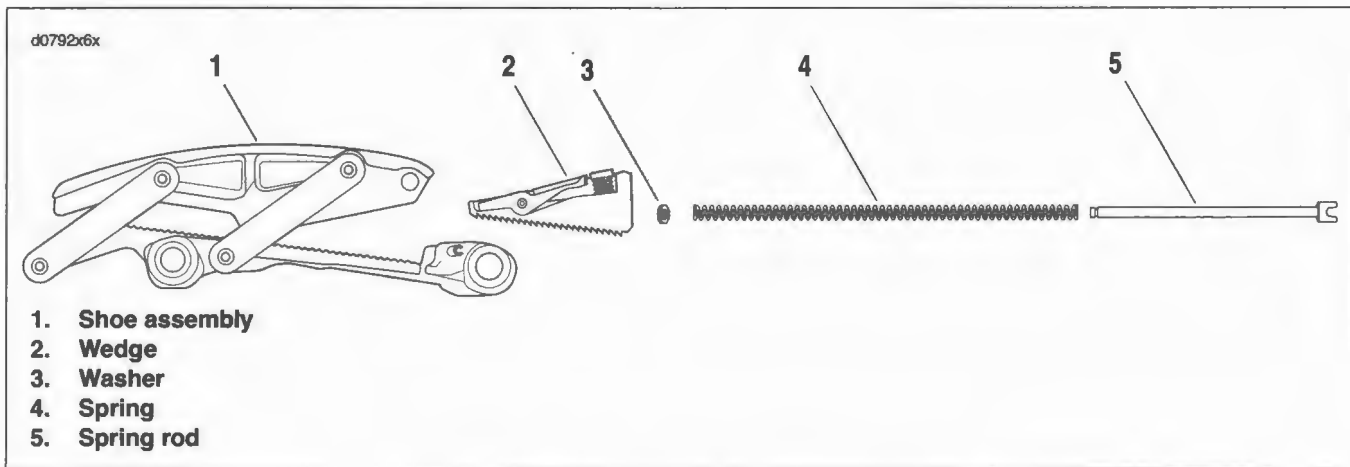

Figure 6-20. Primary Chain Tensioner Assembly
10. See Figure 6-20. Although primary chain tensioner is sold as an assembly, tensioner parts can be disassembled. If primary chain tensioner becomes disassembled, assemble in order shown.